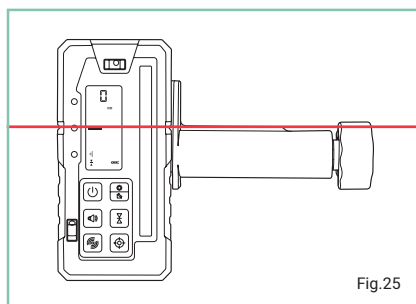
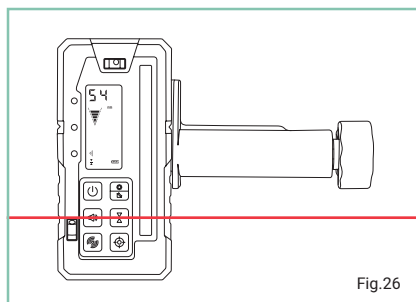

Fig.25
Fig.26
- The direction arrows or level line on the LCD screen will indicate the position of the laser beam. The digital display will indicate a millimetre reading of the adjustment required (Fig.25 & Fig.26).
- When the level position has been located, the speaker will emit a constant beep and show the centre alignment line on the LCD screen (Fig.25).